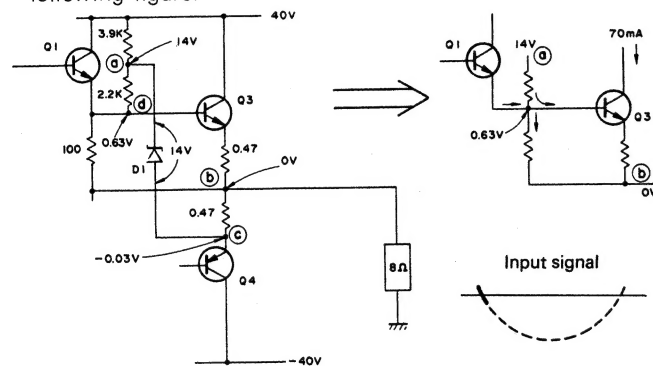

Fig. 5 Input signal goes from positive to negative
the voltages at points ① through ⑤. The base-emitter voltage  $V_{BE}$  of Q3 is 0.56V (see Fig. 5, 6 and 7), thus the Q3 is not cut off. The Q3's collector current will be about 30 mA, which is reduced from the initial 70 mA.